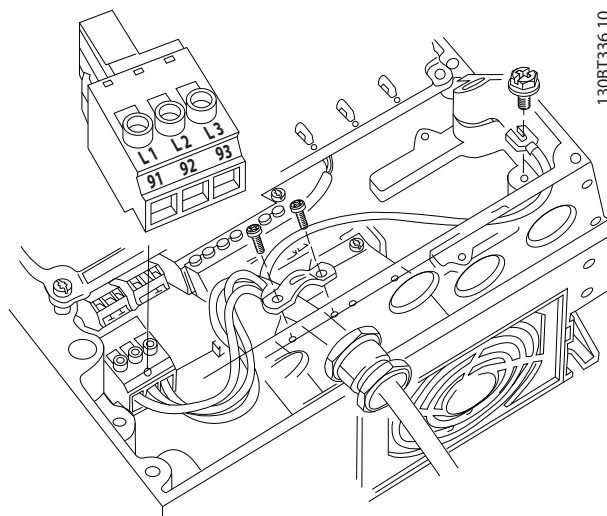

Figure 4.10 Connecting to AC Line Power
1. Connect 3-phase AC input power wiring to terminals L1, L2, and L3 (see *Figure 4.10*).